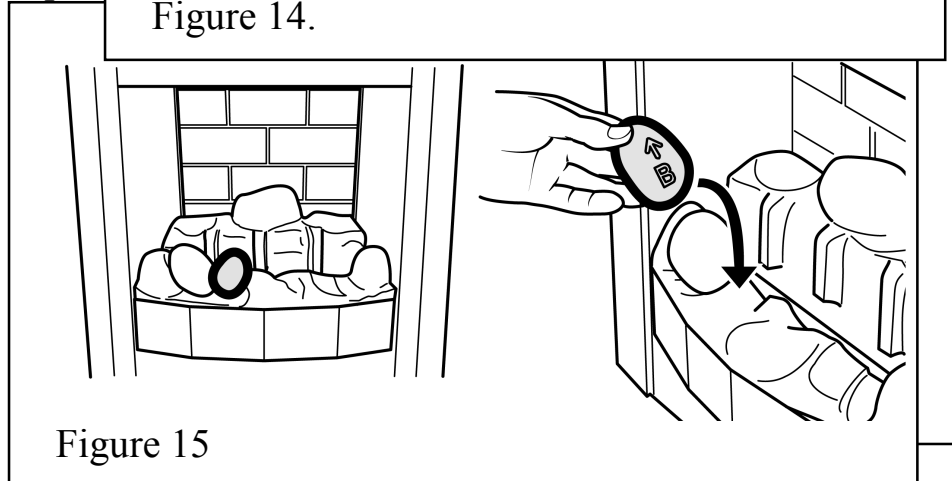

Figure 15
4. Hold pebble 'B' upright with the arrow pointing to the top. Place pebble "B" on top of the front base pebble. (See figure 15).